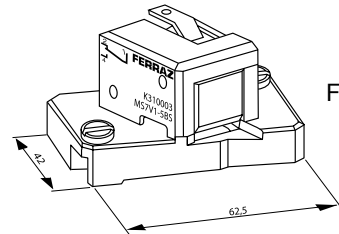

Fig. 4
(7) Same as fig. 4
(8) Same dimensions as fig. 4 but with 2 microswitches side by side
(9) Watertightness class